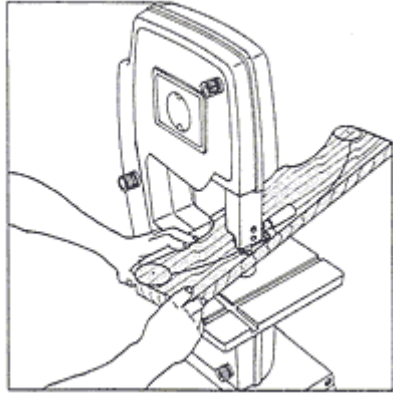

Fig. 2 Using a bandsaw to pad saw rockers to shape.
With your Bandsaw, cut the rockers (H) and canopy support (E) to size and shape, according to the drawings. To make sure both rockers are exactly the same shape, pad saw the two workpieces by double-stick taping them together and sawing both pieces out at the same time (See Fig. 2). Be sure to leave your cutting line intact while cutting.